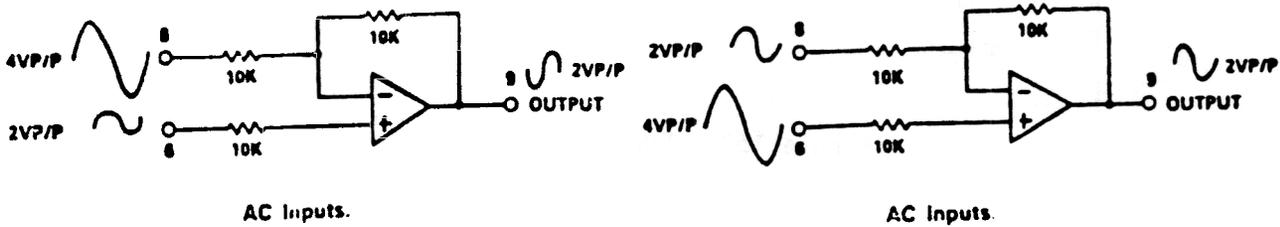

Figure 16B. Differential amplifiers
AC voltages. If the AC signal applied to the inverting terminal is greater in amplitude than the AC signal applied to the non-inverting terminal, the output AC signal will be 180 degrees out of phase from the greater input. If the AC signal applied to the non-inverting terminal is greater in amplitude than the AC signal applied to the inverting terminal, the output AC signal will be in phase with the greater input. Refer to Figure 16B(3) and (4) for examples.